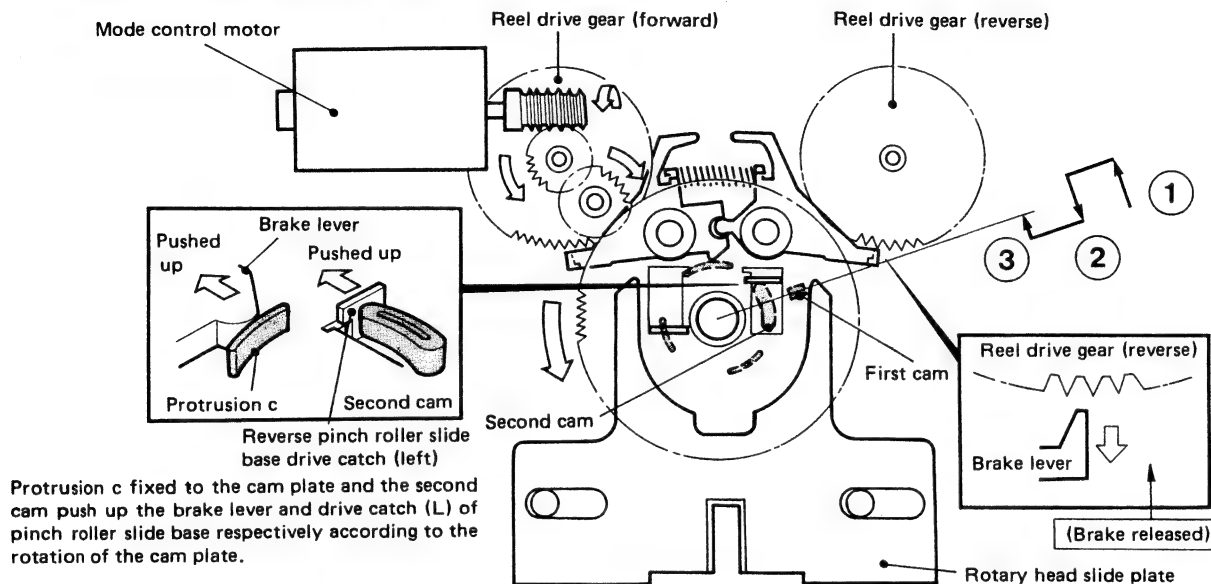

Fig. 10a (rear view)
As REV pinch roller slide base moves up, REV pinch roller is moved up and fixed to positions (1)–(3) indicated by the arrows in Fig. 10a Review Operation (Surface view). This operation is carried out to perform the review operation without fitting the protrusion into the concave according to the relationship between the head base and C/R slide plate.